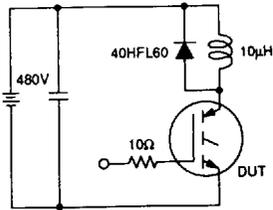

Fig 12a. Clamped Inductive Load Test Circuit
- ② $V_{CC} = 80\%$ (BV_{CES}), $V_{GE} = 20\text{V}$, $L \geq 10\ \mu\text{H}$, $R_G = 10\ \Omega$, (See figure 12a)
③ Pulse width $\leq 80\ \mu\text{s}$; duty factor $\leq 0.1\%$.
④ Pulse width $\leq 5\ \mu\text{s}$, single shot
⑤ K/W equivalent to $^\circ\text{C}/\text{W}$